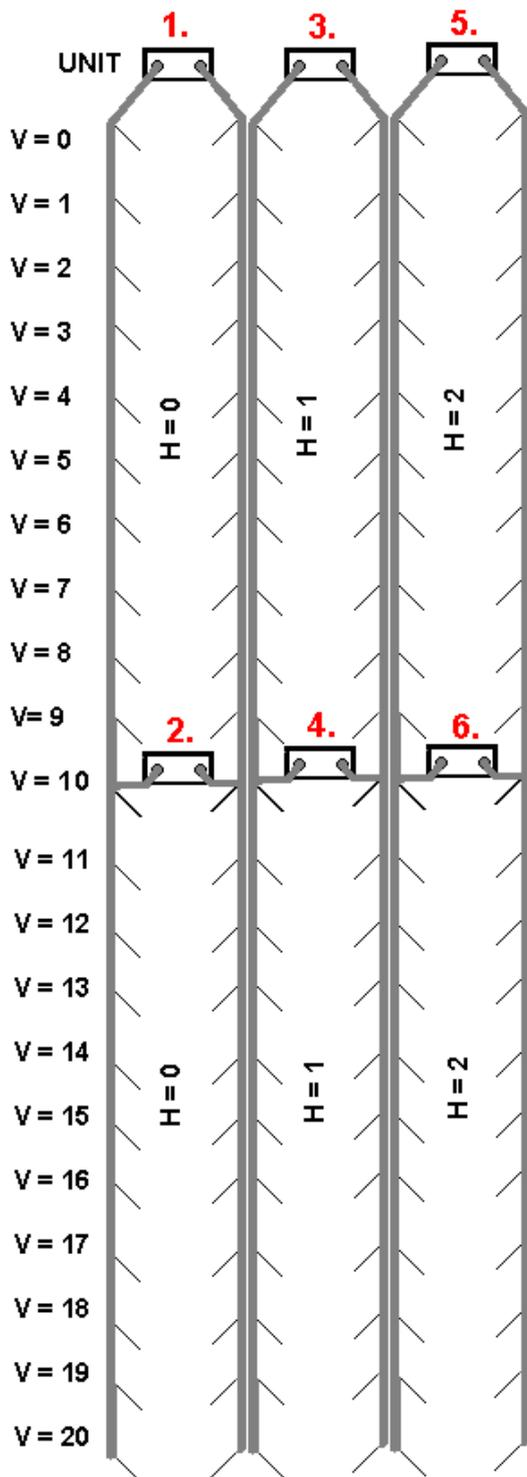

Fig. 5b
2. The second option is to move both strings / rods so that the first new survey block starts where the previous last ended and press **AUTO**, to collect new data. You select to do this if the field is very extended therefore long survey lines are needed. After ending measurements of the first line H = 0 proceed as on figure 5b.